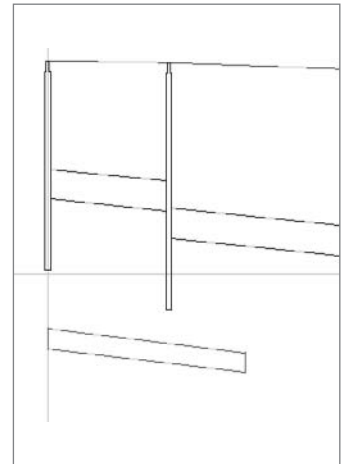

Figure 13.22
14. At the Select profile view: prompt, select the Alignment - (Storm Drainage Network) profile view. The selected pipe will appear in profile, as shown in Figure 13.22. It will look strange until you override the style to show the pipe as a crossing.